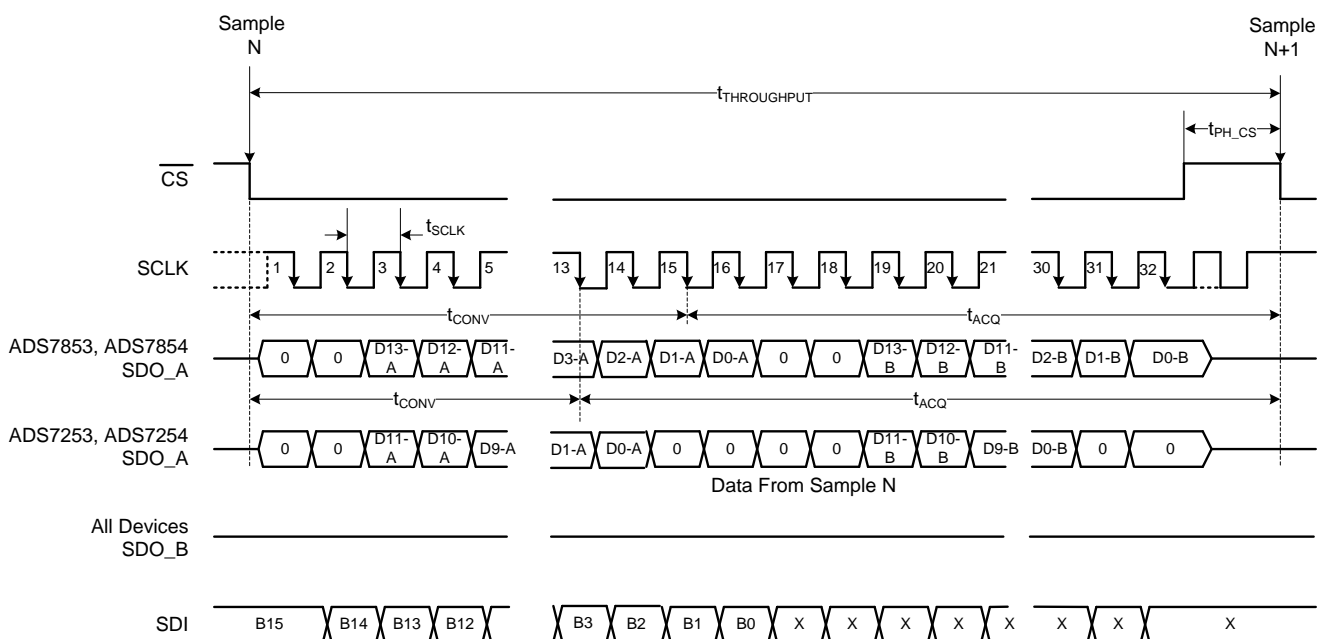

Figure 93. 16-CLK, Single-SDO Mode Timing Diagram
For the ADS7854 and ADS7254, this mode can be selected by writing CFR.B11 = 1 and CFR.B10 = 1. The SDO_A pin is used to output the conversion results of both ADCs (ADC_A and ADC_B). SDO_B remains in 3-state and can be treated as a no connect (NC) pin. Figure 93 shows a detailed timing diagram for this mode.